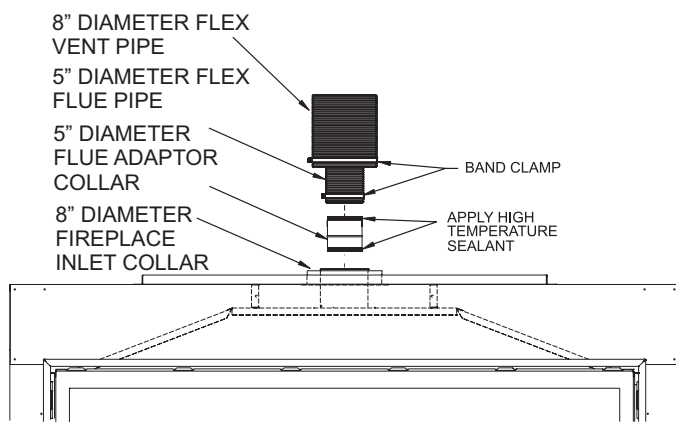

Figure 59
- Apply sealant to the outside of the flue pipe adapter and connect to the flex flue pipe. Then insert the adapter into the fireplace flue. Secure flue adapter to the fireplace flue with a minimum of two screws provided. **See Figure 59.**